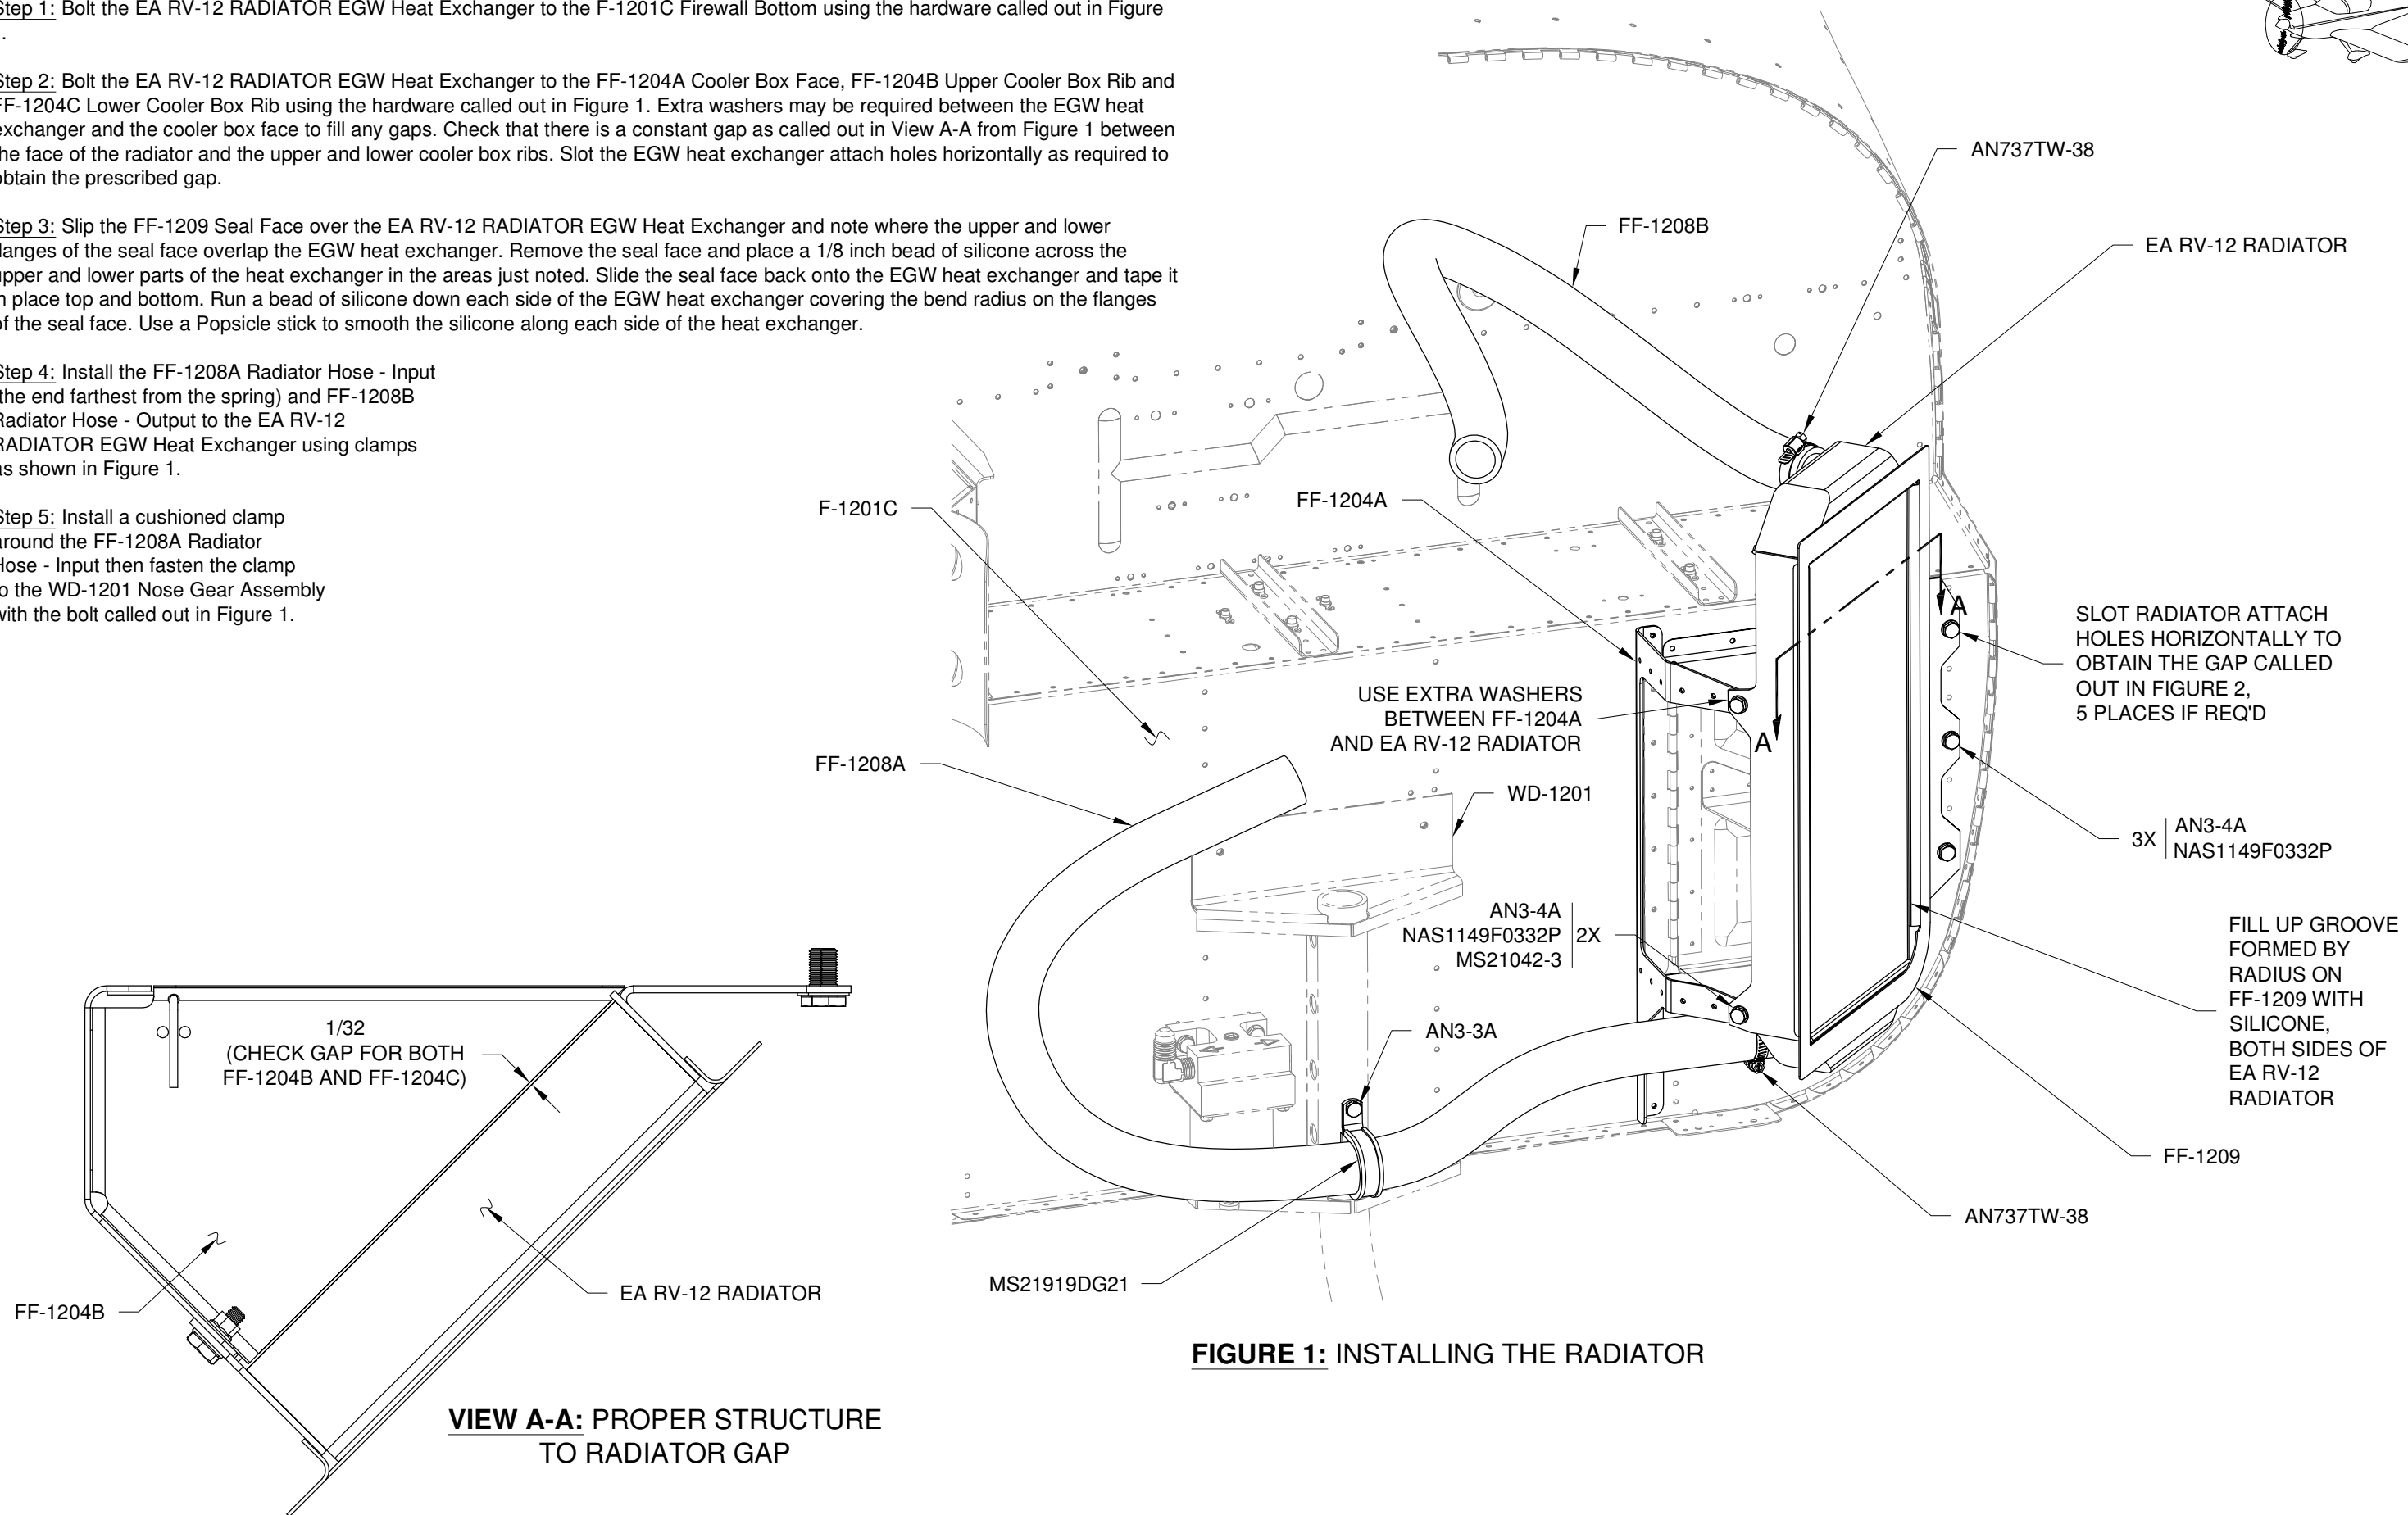

FIGURE 1: INSTALLING THE RADIATOR
Step 4: Install the FF-1208A Radiator Hose - Input (the end farthest from the spring) and FF-1208B Radiator Hose - Output to the EA RV-12 RADIATOR EGW Heat Exchanger using clamps as shown in Figure 1.
Step 5: Install a cushioned clamp around the FF-1208A Radiator Hose - Input then fasten the clamp to the WD-1201 Nose Gear Assembly with the bolt called out in Figure 1.
Step 1: Install the Oil Tank Assembly using two band clamps as shown in Figure 1. Trim bolts on clamps if desired leaving a minimum 1/4 inch of exposed threads.